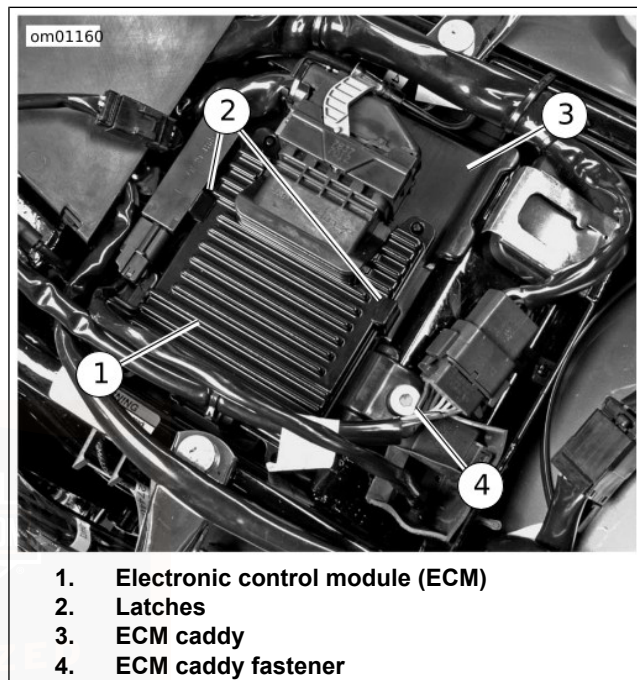

Figure 72. ECM Caddy: Touring Models
2. See Figure 72. Press latches (2) away from the ECM (1) and detach from ECM caddy (3).
3. Remove fastener (4) from rear of ECM caddy.
7. See Figure 72. Install ECM caddy over battery compartment. Tighten fastener to 20–27 N·m (15–20 ft-lbs).